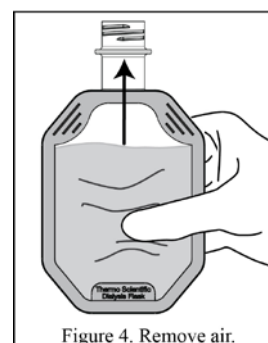

Figure 4. Remove air.
- With gloved hands, press gently on both sides of the membrane to remove sufficient air so the sample level is even with the bottom of the flask neck (Figure 4). While holding the membrane at this level, tightly screw the cap back on to the flask.